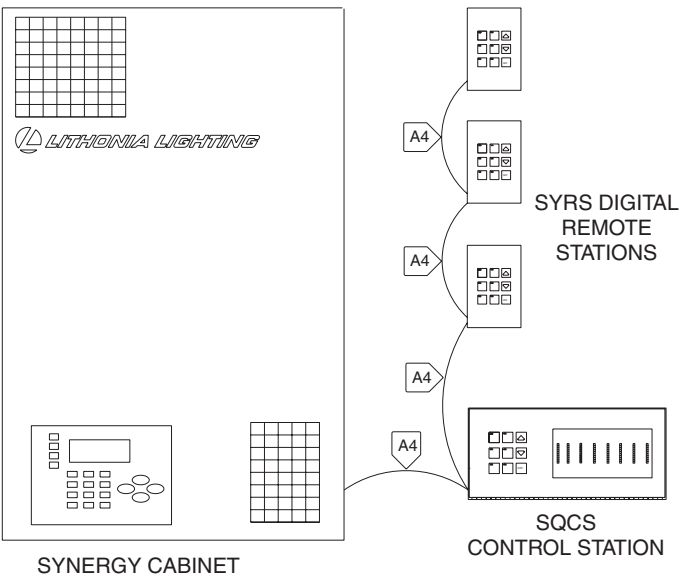

Figure 2 - SYRS Remote Station One Line Drawing
4. All A4 network devices **must** be connected in a daisy chain (in and out) configuration. "T" taps or branches in the network are **NOT** permitted. See *Figure 2*.